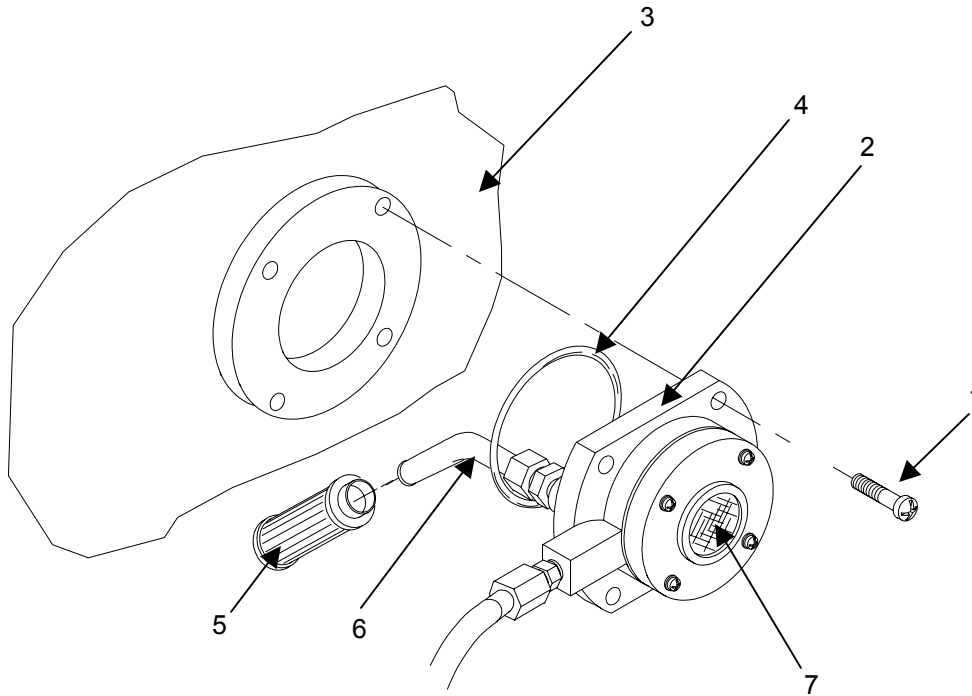

Figure 1. Replace the Pickup Fuel Filter
1. Remove four screws (**figure 1, item 1**) holding fuel regulator assembly (**figure 1, item 2**) to tank (**figure 1, item 3**).
2. Remove fuel regulator assembly (**figure 1, item 2**) from tank (**figure 1, item 3**) as shown.
3. Discard O-ring (**figure 1, item 4**).
4. Pull fuel filter (**figure 1, item 5**) off the regulator shaft (**figure 1, item 6**).
5. Install new fuel filter (**figure 1, item 5**) onto regulator shaft (**figure 1, item 6**).
6. Lubricate new O-ring (**figure 1, item 4**) with clean fuel, and install new O-ring.
7. Check the fuel regulator air vent (**figure 1, item 7**) for dirt or debris and clean with a small soft-bristle brush. Do not use any tool that will force the debris into the filter surface or damage it in any way.
8. Re-install fuel regulator assembly (figure 1, item 2) into tank (figure 1, item 3) and secure with four screws (figure 1, item 1).